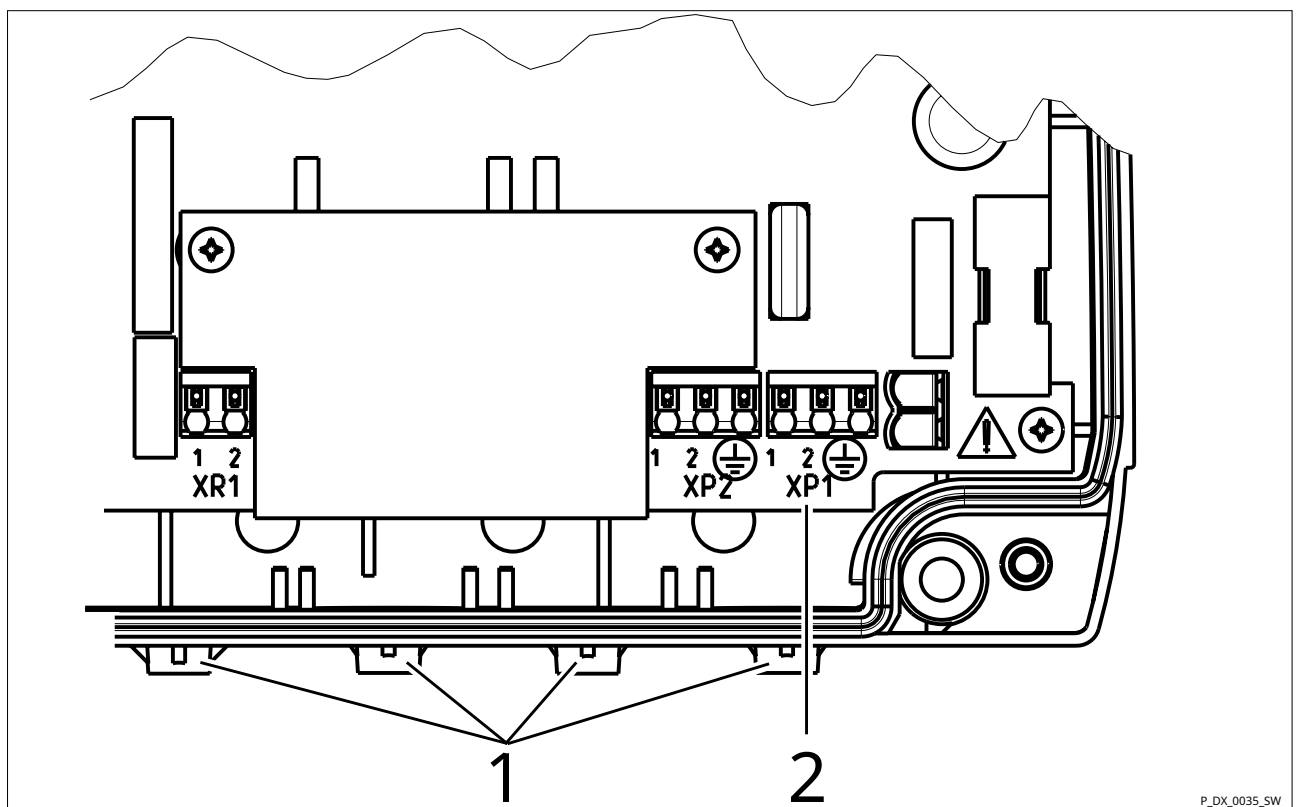

Fig. 10: Preparing the mains connection
6. ➤ Connect the mains cable to terminal block XP1 - see *Fig. 10*.